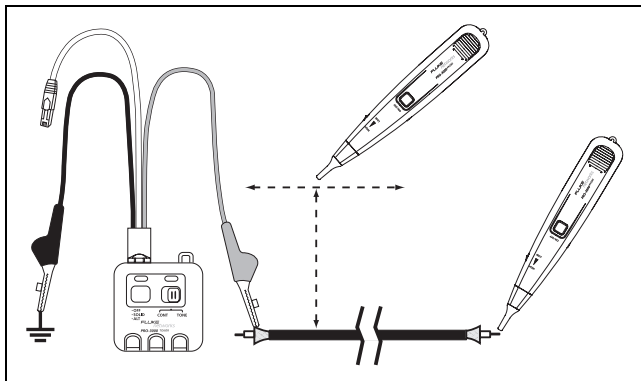

Figure 3. Tracing Cables
- 2 Connect the red test lead to a wire of the unknown cable (Figure 3).